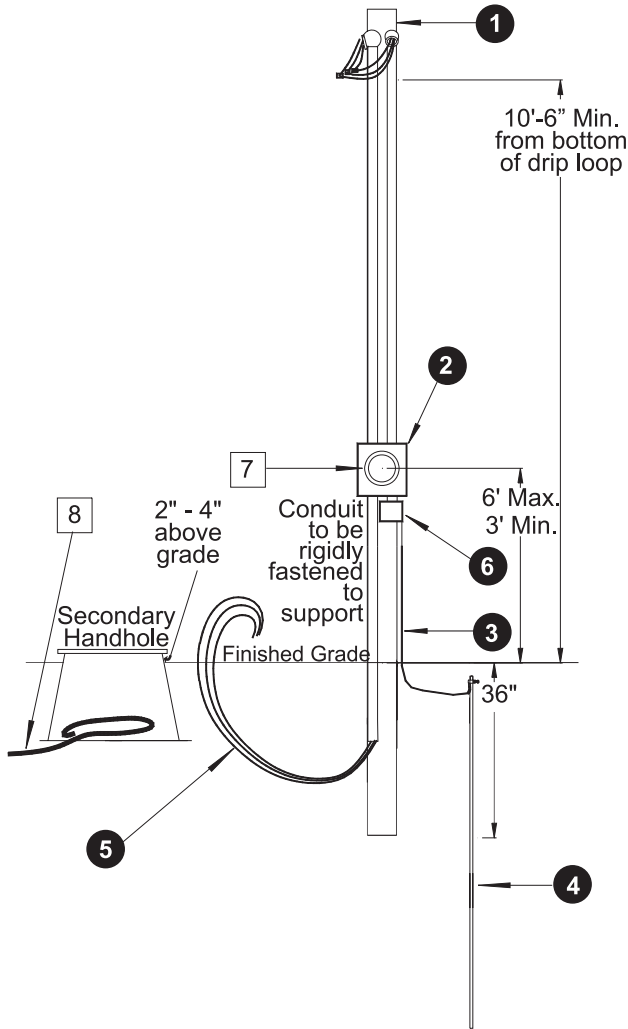

Figure B-3.
If you are in an underground area, you must have an underground temporary service (see Figures B-3 and B-4).
The requirements to connect to an overhead converted to underground meter pedestal are shown in Figure B-3. The cable you install should be sized per the NEC and should have a minimum cover of 24".
● Items owned/installed by the customer (Figs. B-3, B-4)
□ Items owned & installed by Central Lincoln (Figs. B-3, B-4)